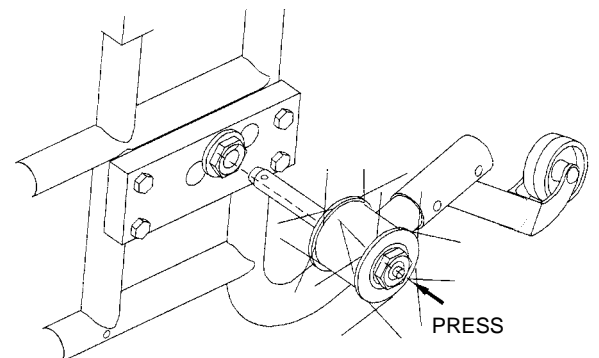

Figure 4
- 4 To remove the wheels, ensure the brake are not applied. With one hand hold the frame of the wheelchair and with the other hand hold the spokes surrounding the hub and fully depress the centre button. Pull the wheel away from the wheelchair and axle bush and release the centre button (see FIG 4).